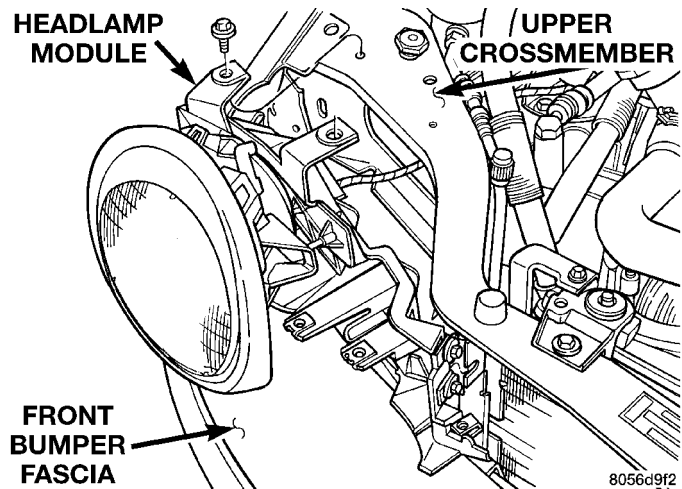

Fig. 1 Headlamp Module
- (1) Release hood latch and open hood.
- (2) From behind bumper fascia, remove bolt holding outboard end of module to fender.
- (3) Loosen bolts holding inboard end of module to radiator closure panel.
- (4) Remove bolt holding grille to headlamp module.
- (5) Remove bolts holding top of module to upper crossmember (Fig. 1).
- (6) Disengage wire connector from headlamp and parking lamp sockets.
- (7) Separate headlamp module from vehicle.